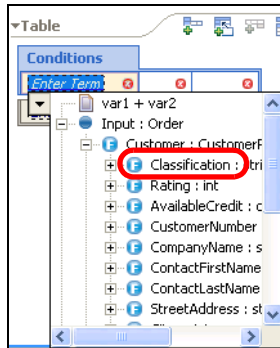

Figure 16-8 Decision table: Select condition
- ▶ In the *Conditions* section, click *Enter Term*. A selection box appears from which you can select *Input* → *Customer* → *Classification* (Figure 16-8).